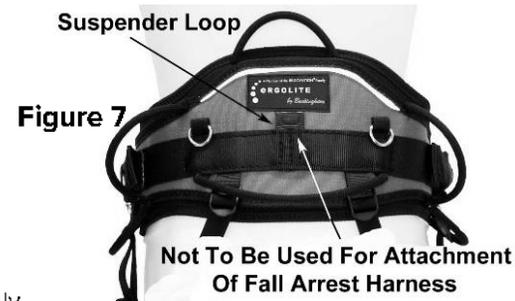

Figure 7
- This saddle is not designed to be used with a retro fit Fall Arrest Harness. The large loop centered at the rear of the back pad is intended for connection of saddle suspenders only (Figure 7). Saddle suspenders **ARE NOT** safety products. Suspenders are designed to support only the weight of the saddle, and the tools it contains, **NOT** the individual.